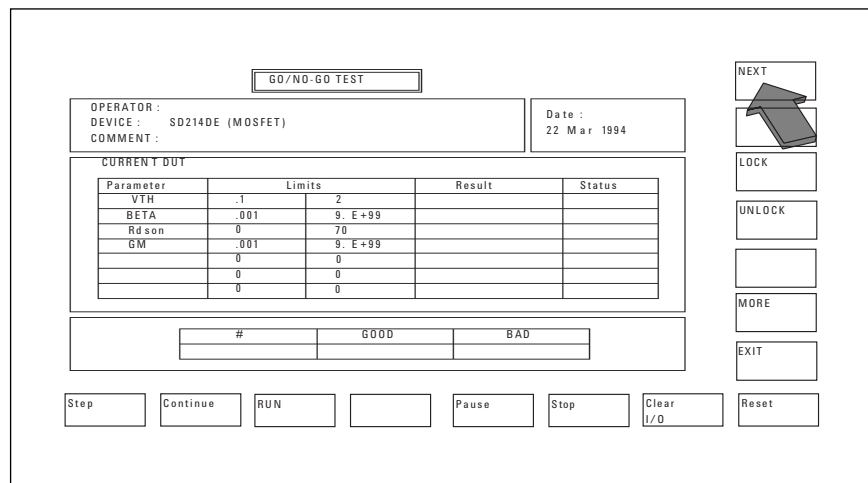

Figure 2. Example of a Go/No-Go Evaluation Test Display
Here we will use softkey (1) to select MOSFET. The next screen, as in Figure 2, shows the prerecorded measurement parameters for the MOSFET (Vth, BETA, Rdson and Gm) and the upper and lower limit values for each of these parameters. In this example, once the device is connected, you need only press the NEXT softkey to extract the above parameters using the “Auto Analysis Function” and